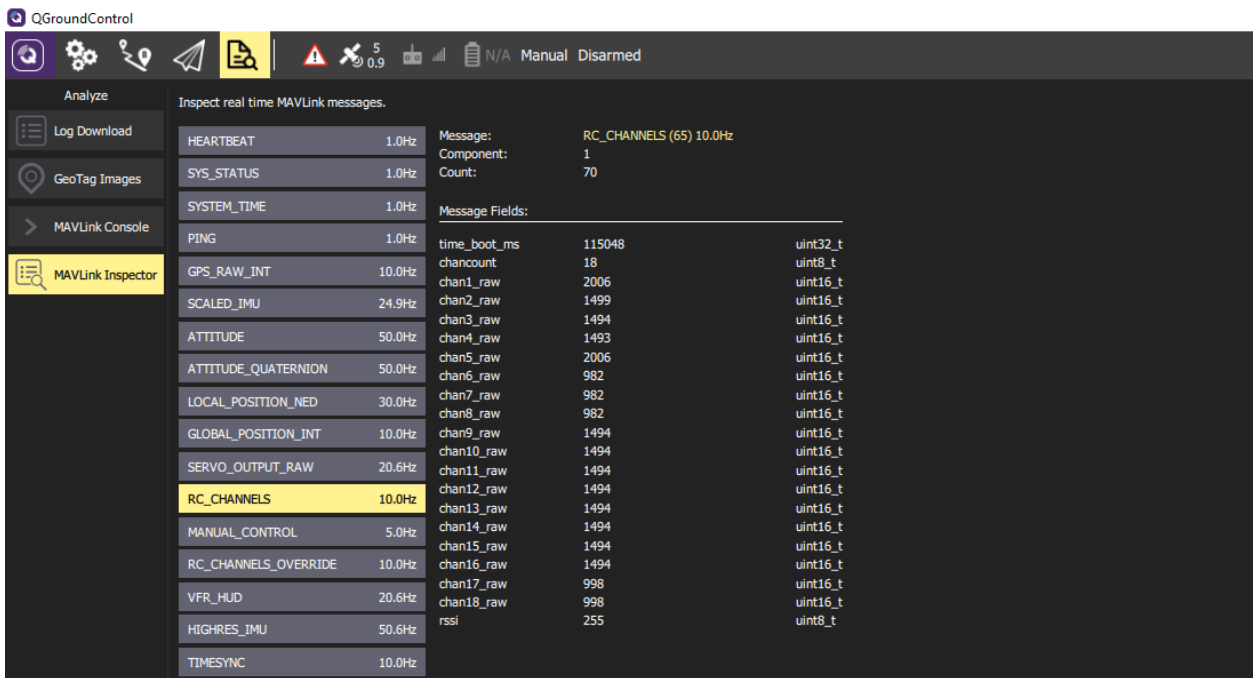

Figure 11: MAVLink Inspector.
- b) that the RC channels are displayed in the MAVLink Inspector (see Fig. 11). This procedure is typically only necessary if QGC was connected to another Pixhawk before, as this might affect the settings. For more information on these settings, review Sec. 6.1.